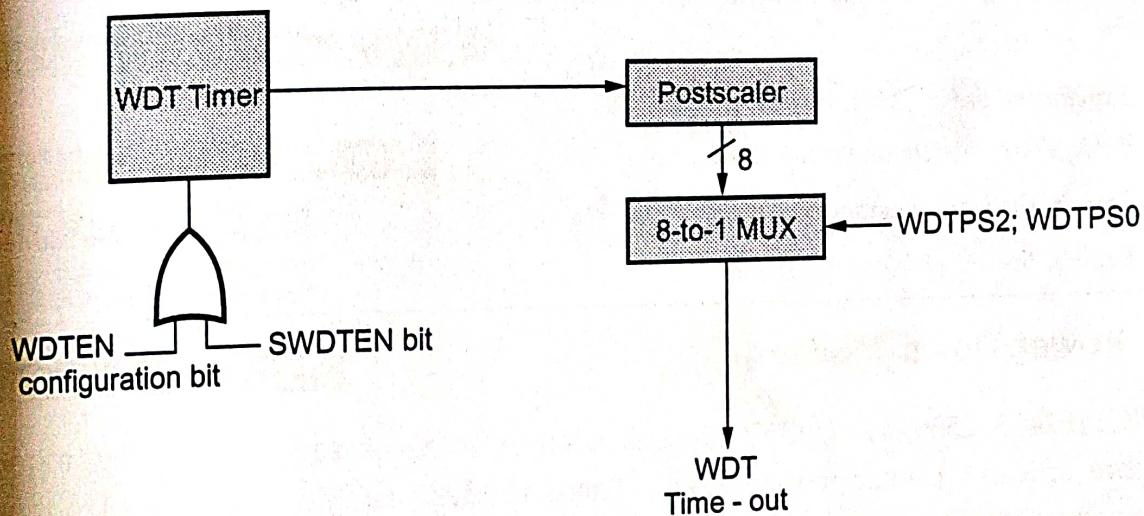

Fig. 2.10.5 Block diagram of Watchdog Timer
- Fig. 2.10.5 shows the block diagram of Watchdog Timer. As shown in Fig. 2.10.5, the Watchdog Timer is enabled/disabled by a device configuration bit. If the WDT is enabled, software execution may not disable this function. When the WDTEN (Watchdog Timer Enable) configuration bit is cleared, the SWDTEN (Software Controlled Watchdog Timer Enable) bit in the watchdog timer control register (WDTCON) enables/disables the operation of the WDT.